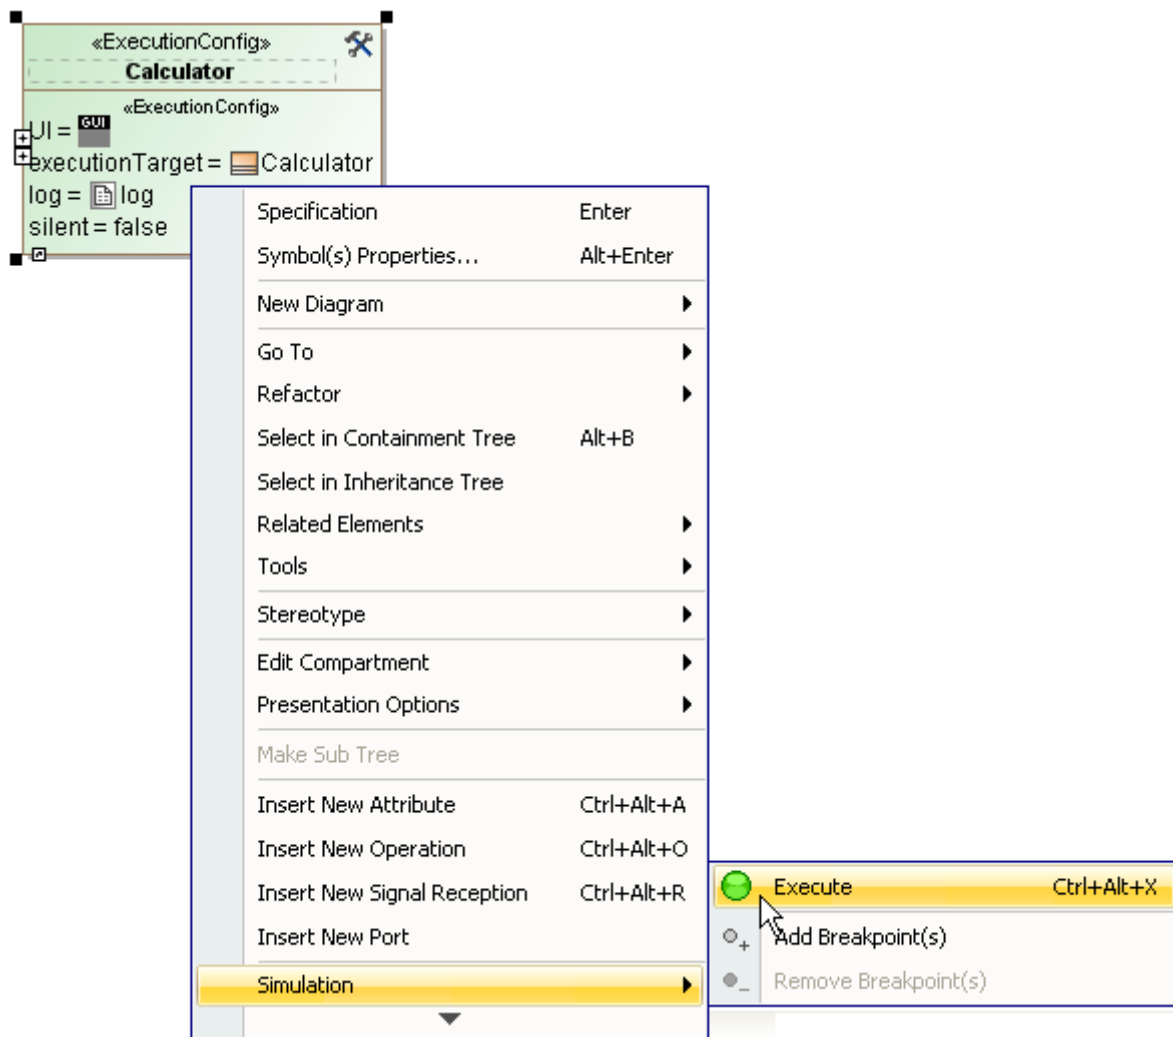

Figure 13 -- Executing from ExecutionConfig
- Right-click an Execution Configuration and select **Simulation > Execution** (Figure 13).